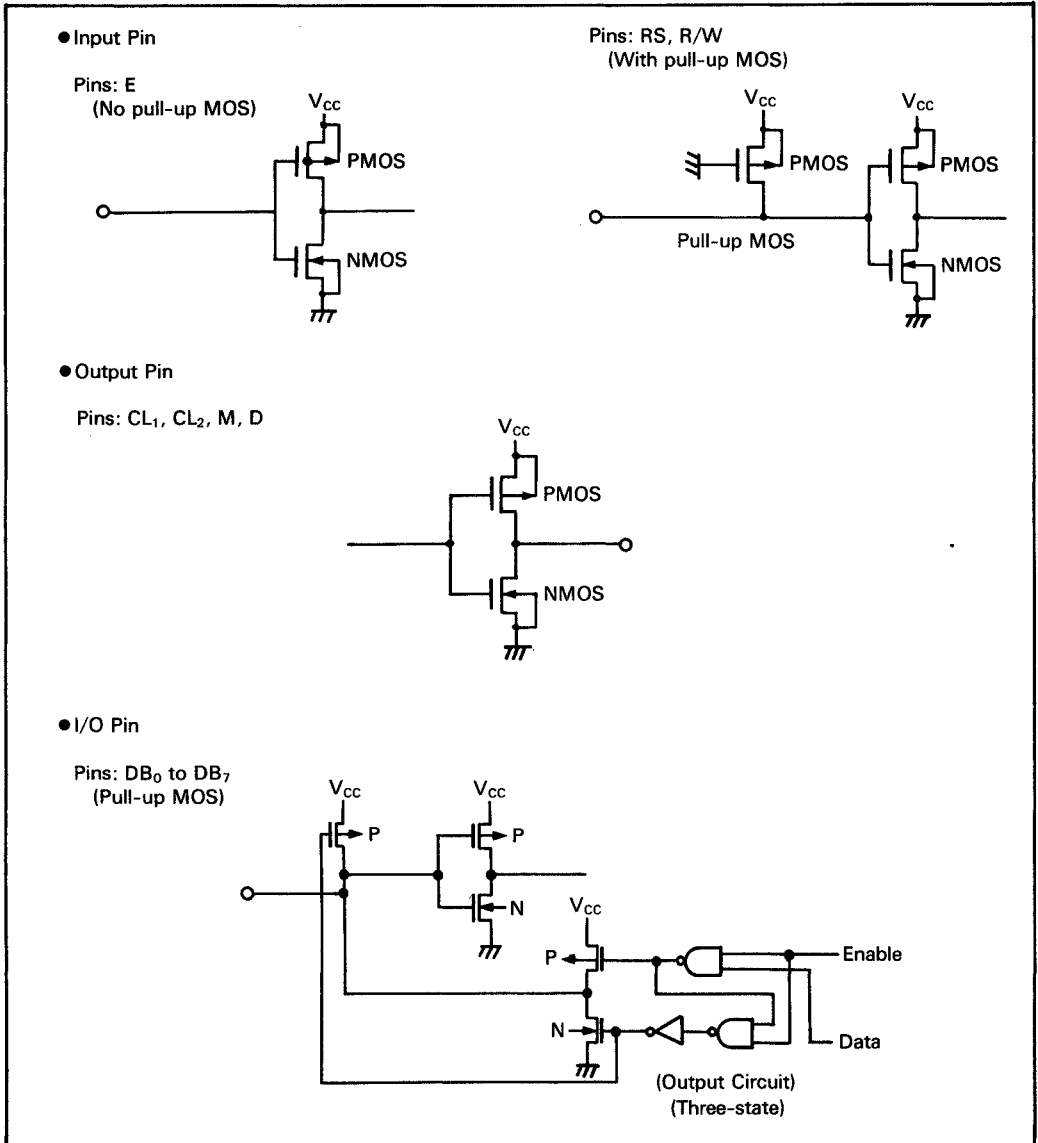

Figure 43. Pin Configuration
- External clock operation as shown in figure43.